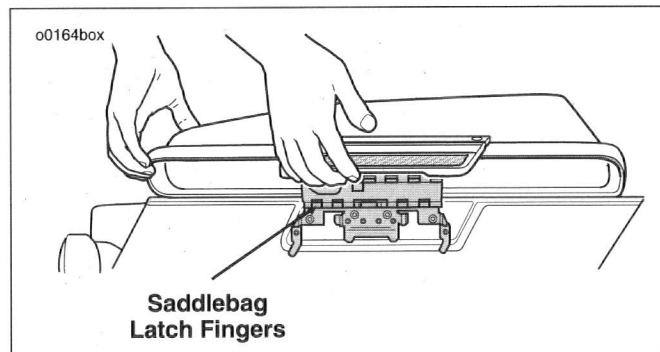

Figure 20. Opening Saddlebag Cover
1. See Figure 20. Pull bottom of saddlebag latch outward and lift upward raising outboard corners of lid.